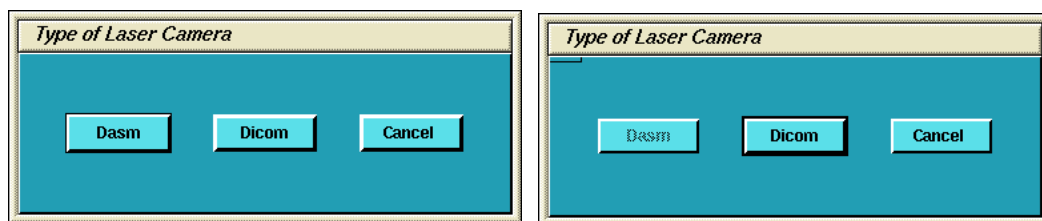

Figure 4-3 Dialog Box for camera Type (with and without DASM)
- b.) Now a dialog window for the camera type (DASM/DICOM) appears. If no DASM is detected during the OC boot, the DASM button will be disabled (See Figure 4-3). If a DASM is present and has not been detected, re-boot the OC and run the camera configuration tool again.